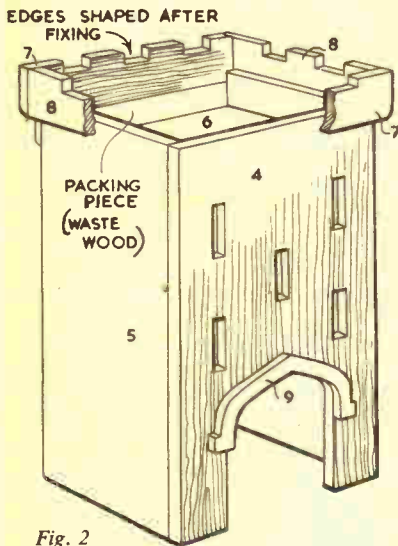
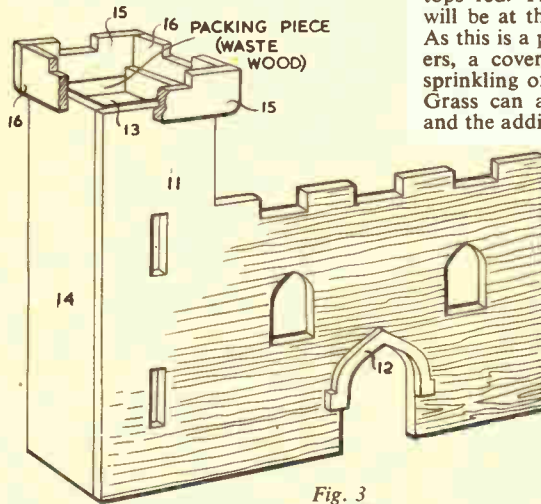

Fig. 2
Fig. 3
The central keep is next assembled as shown in Fig. 2. Pieces (7) and (8) form the battlements which are glued round the top of the keep in their positions shown by dotted lines on the design sheet. Now make up the two outside wing towers as shown in Fig. 3 which is the left-hand tower. The right-hand tower will, of course, be the same shape, but the details and assembly will be reversed. Now glue the three towers to the base and add the four buttresses (pieces 10).